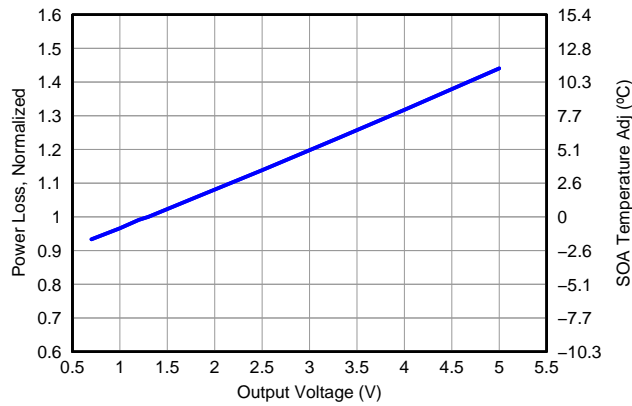

Figure 8. Normalized Power Loss vs Output Voltage
- Normalized power loss for output voltage ≈ 0.98 (Figure 8)
- SOA adjustment for output voltage $\approx -0.29^\circ\text{C}$ (Figure 8)